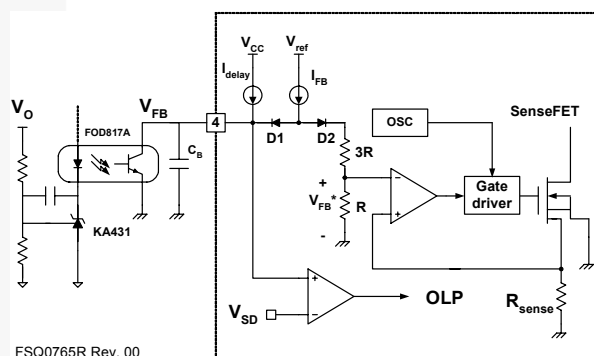

**Figure 22. Startup Circuit**
**1. Startup:** At startup, an internal high-voltage current source supplies the internal bias and charges the external capacitor ( $C_a$ ) connected to the  $V_{CC}$  pin, as illustrated in Figure 22. When  $V_{CC}$  reaches 12V, the FPS™ begins switching and the internal high-voltage current source is disabled. The FPS continues its normal switching operation and the power is supplied from the auxiliary transformer winding unless  $V_{CC}$  goes below the stop voltage of 8V.